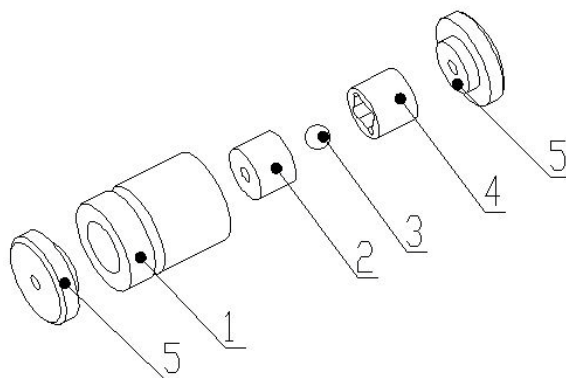

Figure 4-2: Assembly of check valve
- 4) Assemble the cleaned check valve refer to figure 4-2 . Roughness of different side of valve seat is not the same, identify them carefully before installation.(gem ball seat smooth side).